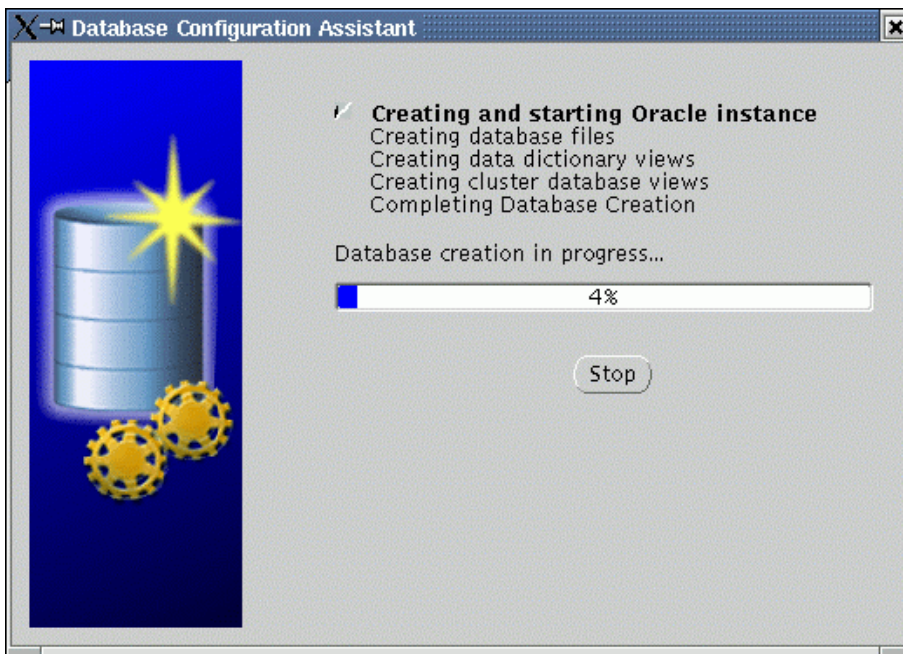

Figure 88. dbca progress display
19. Database creation begins. A progress screen (Figure 88) is displayed, showing the various steps being performed.